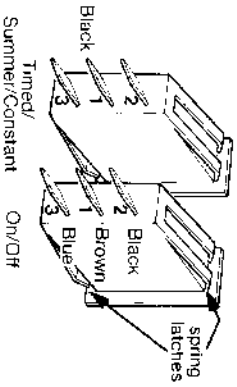

Fig. 35
- 8.19.31 Replace electrical connections. Refer to fig. 35 to ensure correct locations of switch wires.
Refer to fig 35
- 8.19.34 To replace refer to fig 35 to ensure switch is in correct attitude and press into hole from the front until spring tabs latch. Refer to fig 35 for correct wiring details.